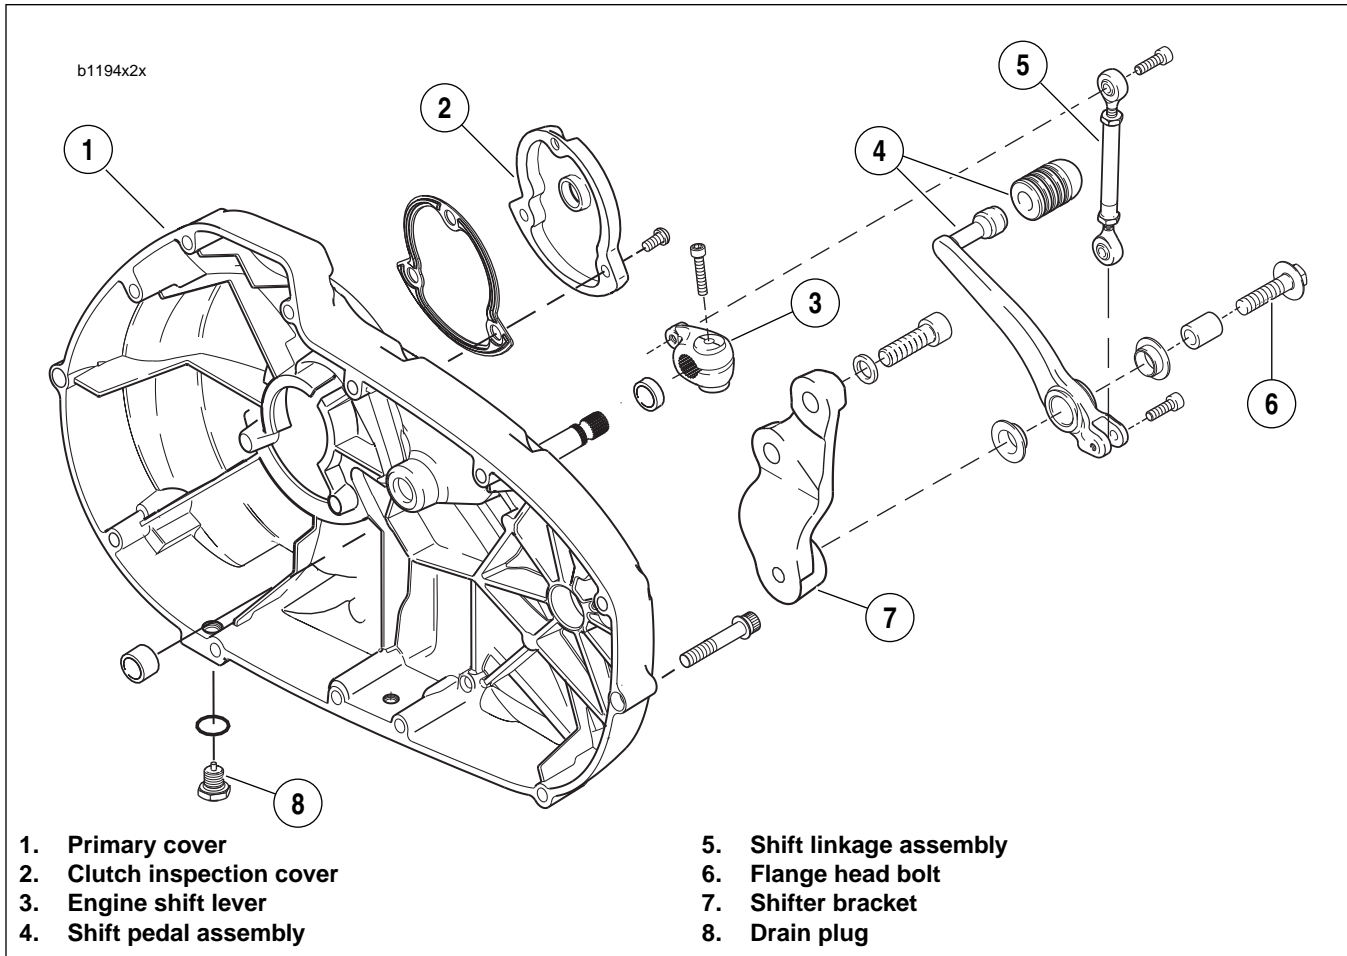

Figure 2-102. Shifter Linkage
13. See Figure 2-102. Remove clutch inspection cover (2).
- a. Remove flange head bolt (6) from primary cover.
- b. Remove engine shift lever assembly (3). Do not scratch primary cover.
12. See Figure 2-102. Install clutch inspection cover (2) with three TORX screws with washers. Tighten screws in a crosswise pattern to 84-108 **in-lbs** (9.5-12.2 Nm).